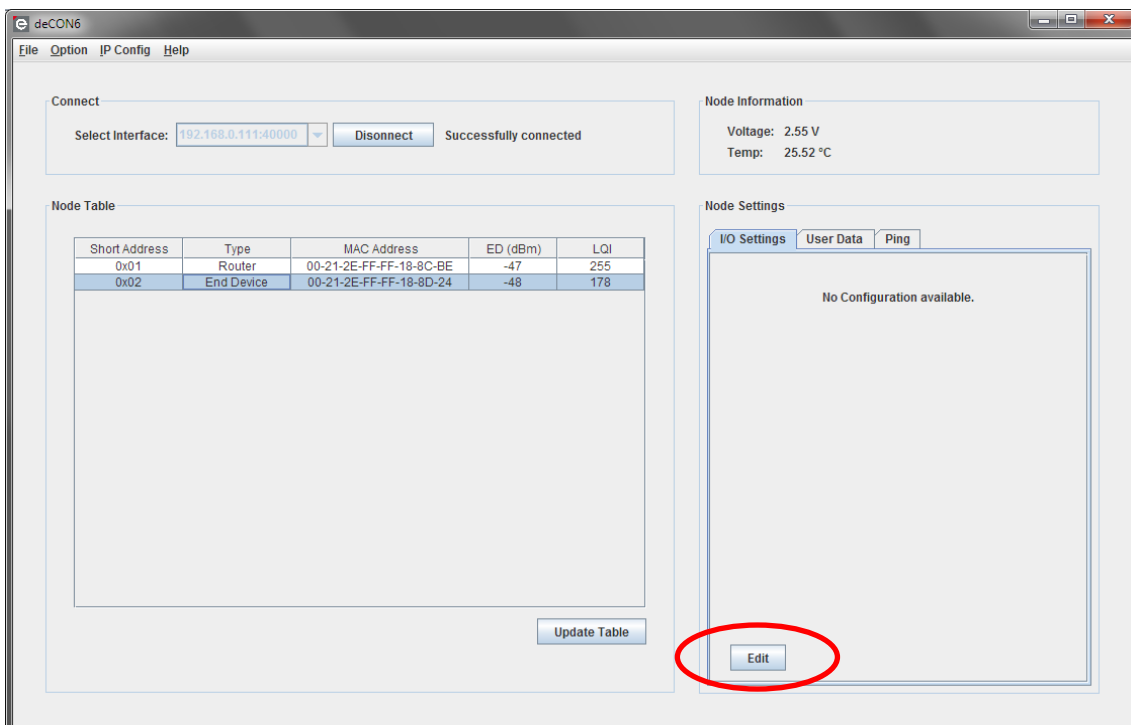

Figure 25: Edit node configuration
- Select the node you want to edit in the 'Node Table', e.g. 'End Device' as shown in **Figure 25**. The selected node is highlighted and the current configuration displayed. Use 'Edit' to configure the selected node.